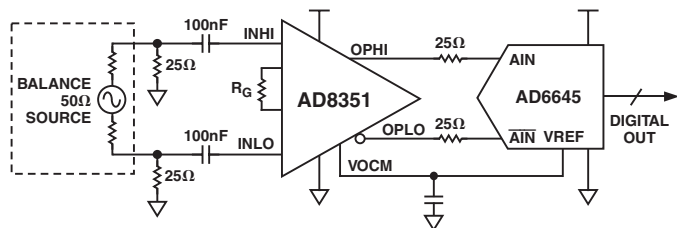

Figure 7. ADC Driving Application Using Differential Input
The circuit in Figure 7 represents a simplified front end of the AD8351 driving the AD6645 a 14-bit, 105 MSPS A/D converter. For optimum performance, the AD6645 and the AD8351 are driven differentially. The resistors R1 and R2 present a 50 Ω differential input impedance to the source with R3 and R4 providing isolation from the A/D input. The gain setting resistor for the AD8351 is R_G . The AD6645 presents a 1 k Ω differential load to the AD8351 and requires a 2.2 V p-p differential signal between AIN and $-$ AIN for a full-scale output. This AD8351 circuit then provides the gain, isolation, and source matching for the AD6645. The AD8351 also provides a balanced input, not provided by the balun, to the AD6645, which is essential for second-order cancellation. The signal generator is bipolar, centered around ground. Connecting the VOCM pin (10) of the AD8351 to the VREF pin of the AD6645 sets the common-mode output voltage of the AD8351 at 2.4 V. This voltage is bypassed with a .1 μ f capacitor. Increasing the gain of the AD8351 will increase the system noise and thus decrease the SNR but will not significantly affect the distortion. The circuit in Figure 7 can provide SFDR performance of better than -90 dbc with a 10 MHz input, and -80 dbc with a 70 MHz input at a gain of 10 dB.